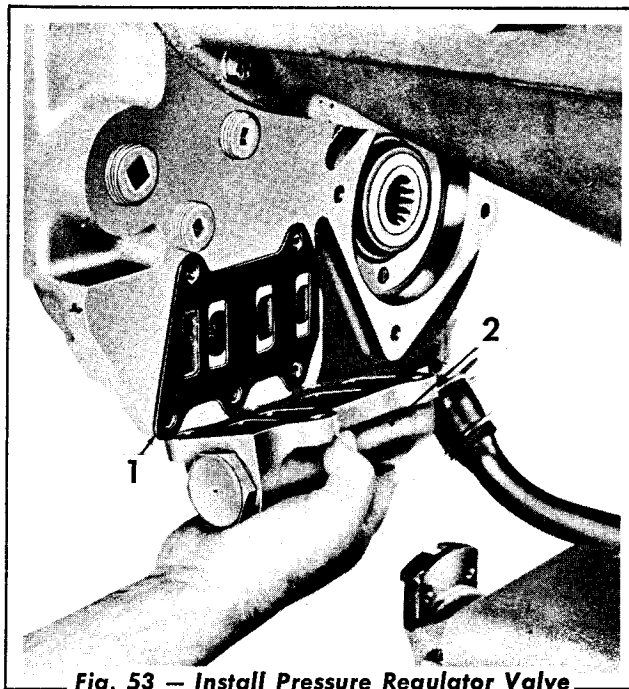

Fig. 53 — Install Pressure Regulator Valve Body Assembly
1. Pressure Regulator Valve Body Capscrews and Lockwashers (5)
17. Install the gasket (Fig. 53) and the pressure regulator valve body assembly onto the lower front surface of the torque converter housing.